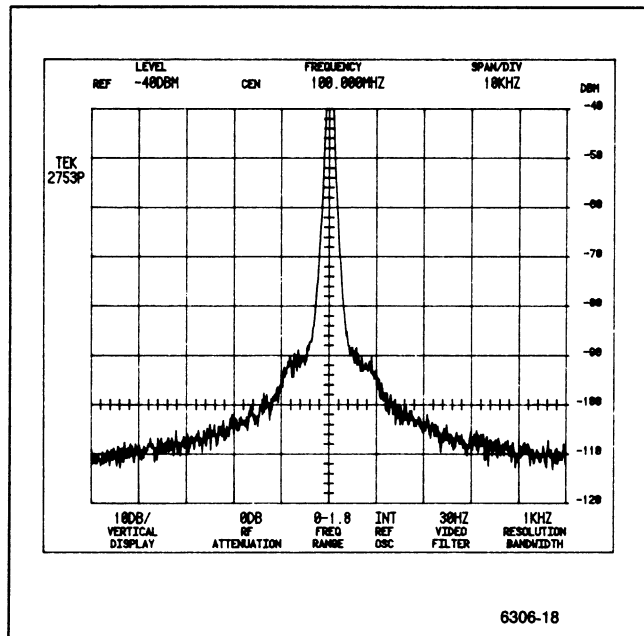

Figure 4-8. Typical display for measuring noise sidebands.
b. Check that the amplitude of the noise sidebands are 55 dB or more down from the reference level at 30 times the resolution bandwidth (3 divisions away from the center frequency position). See Figure 4-8.